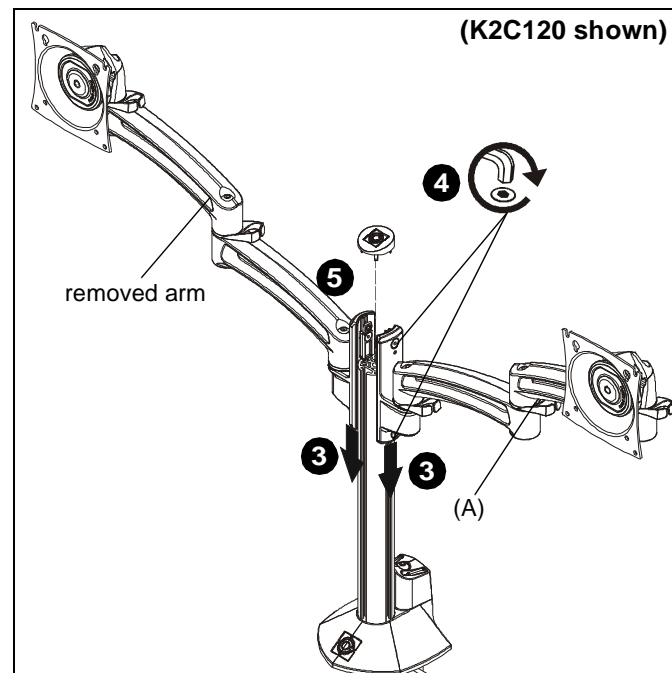

Figure 2
3. Slide KRA222 arm and removed arm onto K1C column on left and right sides of the column. (See Figure 2)
4. Tighten screws to secure each arm to column at desired mounting height. (See Figure 2)
5. Replace cap on top of column. (See Figure 2)